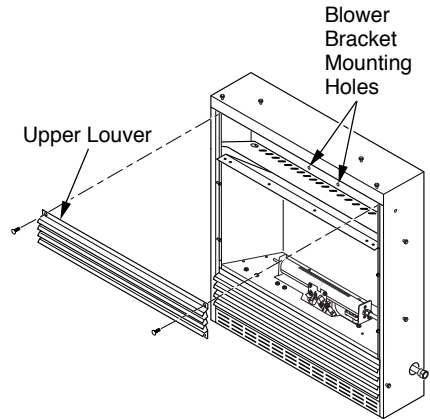
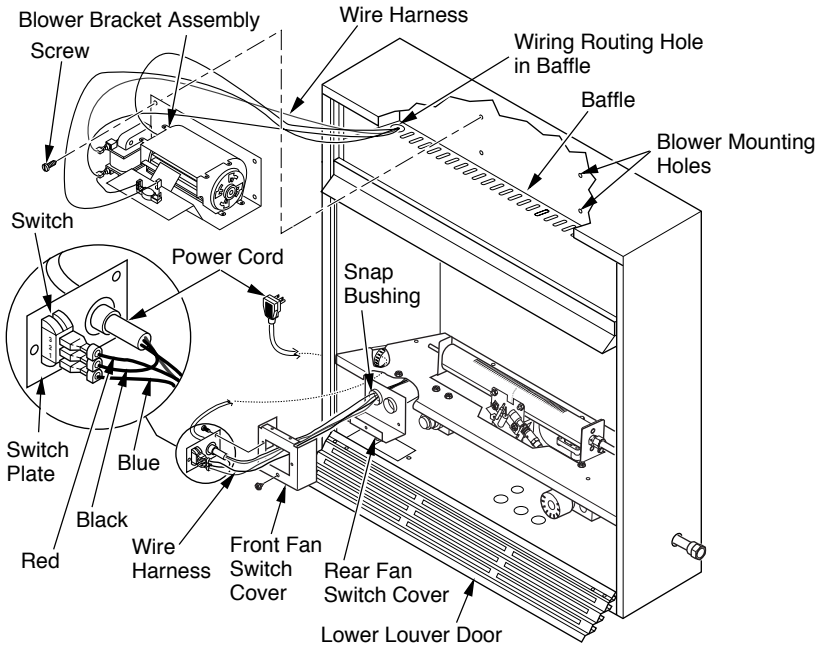

Figure 14 - Removing Upper Louver
Figure 15 - Installing Blower (Thermostat Unit Shown)
2. Remove 4 screws from upper louver (see Figure 14). Save these screws.
4. Open lower louver door by swinging door down (see Figure 15, page 15).
4. Note the wire locations on back of AUTO/OFF/ON switch. The terminals on back of switch are numbered 1, 2, and 3. Carefully remove red wire from terminal 3 and blue wire from terminal 1. Black wire can remain on middle terminal 2 (see Figure 15, page 15).
6. In top of the fireplace cabinet, locate the four mounting holes on the outer casing. Align these four holes with those on the blower bracket assembly. Attach blower bracket assembly to the outer casing with 4 #10 screws provided (see Figure 15).
7. Route the wire harness through the hole in left side of baffle. Pull wire harness through lower opening of firebox (see Figure 15).
8. Insert the 4 wire harnesses into one of the round holes in the rear of the fan switch cover and through the rectangular hole on front of the fan switch cover (see Figure 15).
- Route power cord out of the cabinet by inserting it through the bushing on the outer casing (see Figure 15, page 15). Plug fan kit into 120-Volt grounded power supply and test operation. **Note:** When switch is in the AUTO position, the fan will start after the fireplace has run for a few moments. The fan will continue to run for several moments after the fireplace has been turned off. When switch is in the ON position, the fan will run until turned to OFF. Reinstall upper louver (see Figure 14, page 14). Close lower louver door.
- Reinstall upper louver (see Figure 14, page 14) and close lower louver.